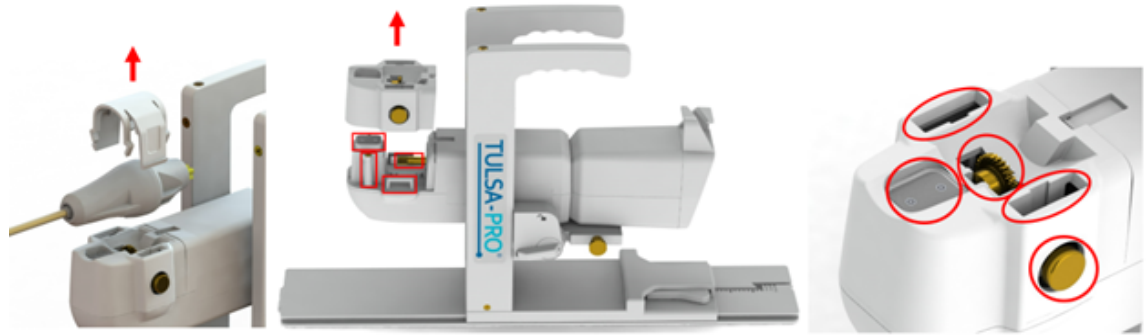

Figure 69: Inspecting the Positioning System
- c. Repeat steps 1 and 2 as necessary until no visible soiling remains, closely inspecting the areas around the gripper and gear (Figure 69).